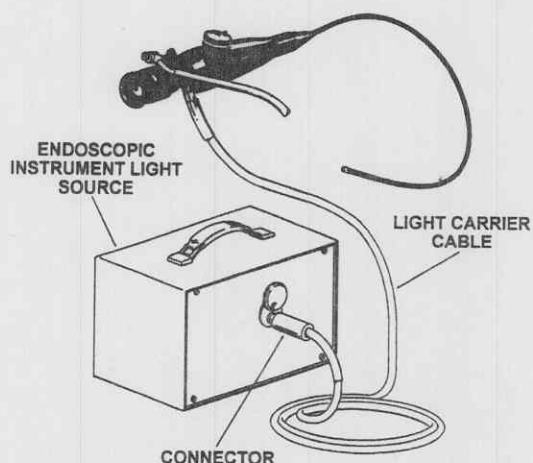

Figure 2-3. Light carrier cable.
a. Light carrier cable (fig 2-3). The terminal of the light carrier cable is connected to the endoscopic instrument light source in accordance with the procedures contained in the applicable technical manual for the light source.